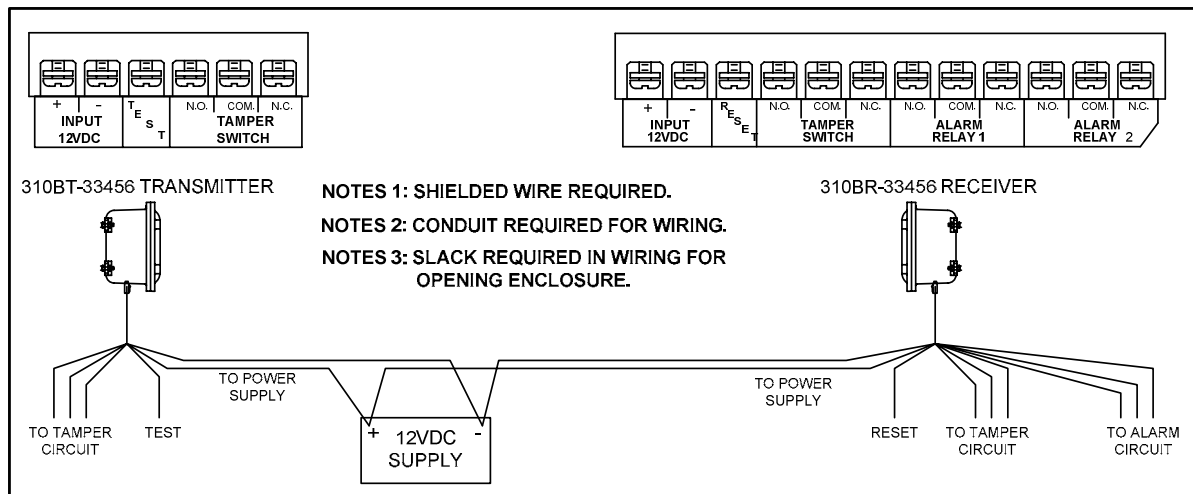

Figure 16 – Terminal Strips for Wiring
1. Open the front hinged cover of Model 310B-33456T Transmitter by removing the twenty (20) bolts in the cover with a 9/16 wrench (#15 metric).
3. Make connections to the terminal strip according to the labeled terminal functions as shown in Figure 16.
1. Open the front hinged cover of Model 310B-33456R Receiver by removing the twenty (20) bolts in the cover with a 9/16 wrench (#15 metric).
3. Make connections to the terminal strip according to labeled terminal functions as shown in Figure 16.
1. To test the Transmitter, a voltage of 5 to 14VDC must be applied to terminal “TEST” on the Model 310B-33456T. (See Figures 16 and 17.)